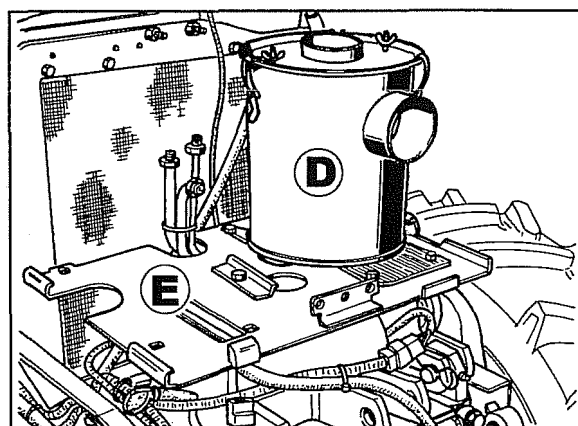

Fig. 7
5. Remove the filter ass'y **D** fig. 7 and its mounting **E** the horn and the battery GDN cable will also be removed with this.